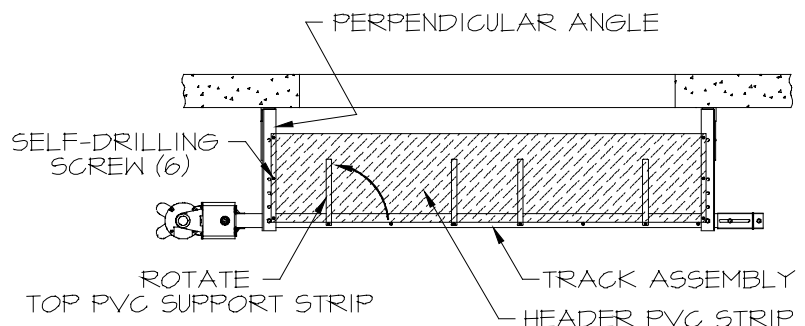

FIG. 15
- a. **Rotate top P.V.C. Support Strips** towards the wall so that support Strips are perpendicular to Track Assembly (Figure 15).